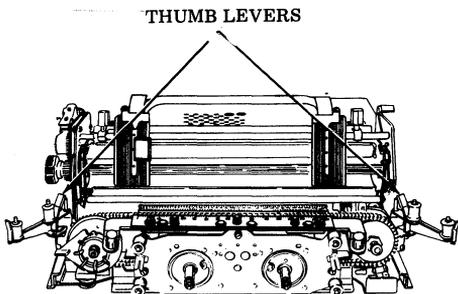

Fig. 13
- (a) Release thumb levers on left and right ribbon guide brackets allowing brackets to spring to sides of printer (Fig. 13).